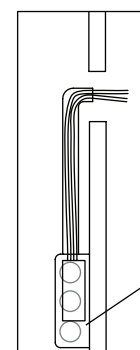

Fig. 1
2. The LED driver (A) must be installed in a remote and accessible location near the fixture in accordance with local electrical code (Fig. 1).
- c. Connect the LED driver's positive (+) output wire (red) to the necessary length of red wire (not included) to reach the fixture (B) location.
3. Using the fixture (B) as a template, drill a small 1/4" hole (C) in the wall behind the fixture at one end, and pull the low voltage wires from the first LED driver (A) through the wall. Repeat for the second LED driver at the other end.
4. Using the fixture (B) as a template, install mounting screws (D) with anchors (E). Do not tighten screws completely.
5. Pull the LED Drivers' (A) positive (+) and negative (-) wires and route through the wire slots (F) on both ends of the fixture (B).
6. Hang fixture (B) on the hooks (G), secure fixture by tightening mounting screws (D).